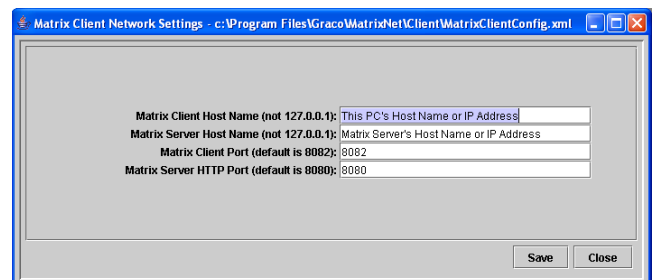

FIG. 68
At the client PC (FIG. 68):
- This entry must match exactly with the name/address give for this PC in the PC client table on the System Configuration page in the Matrix setup screens (FIG. 68).